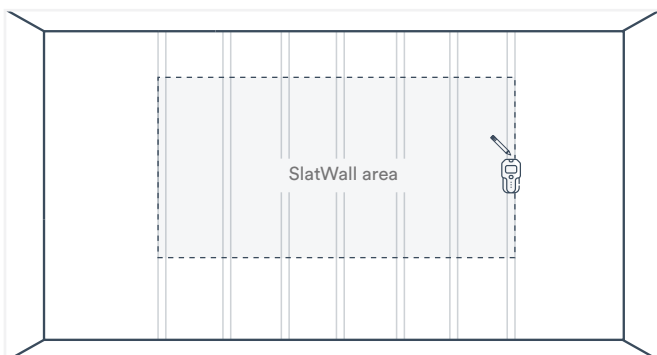

Fig. 24
4. Using a stud finder and a pencil, locate and mark all other wall studs within the installation area (Fig. 24).